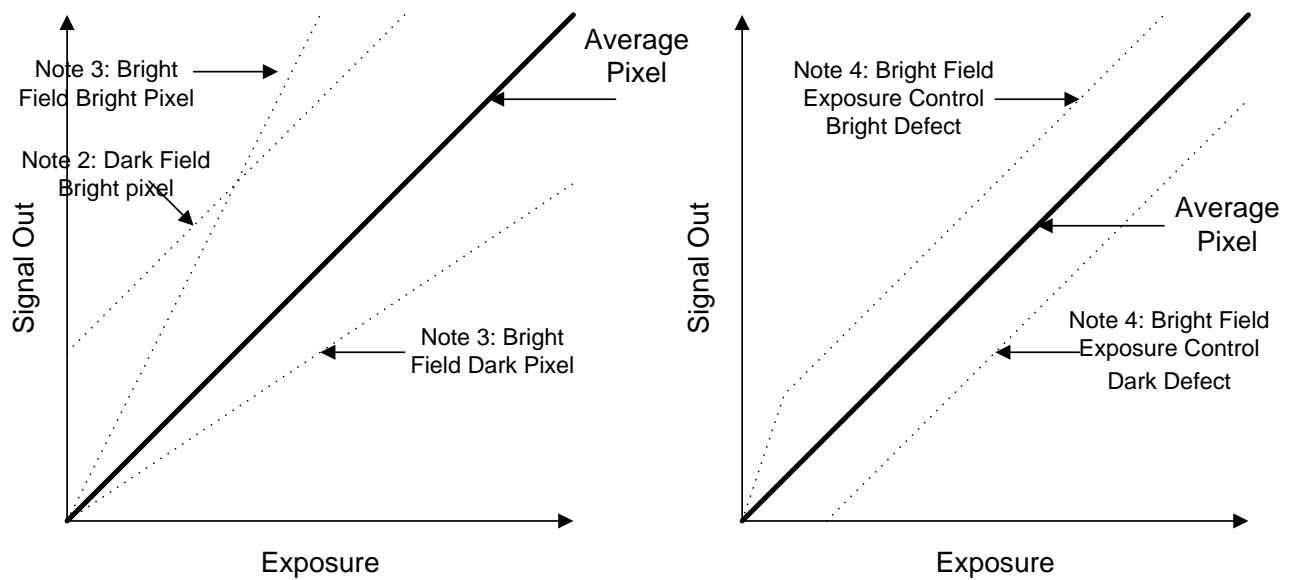

Figure 14: Illustration of Defect Classifications
2. Pixels whose response is greater than the average response by the specified threshold. See Figure 14 below.
3. Pixels whose response is greater or less than the average response by the specified threshold. See Figure 14 below.
4. Pixels whose response deviates from the average pixel response by the specified threshold when operating in exposure control mode. See Figure 14 below.